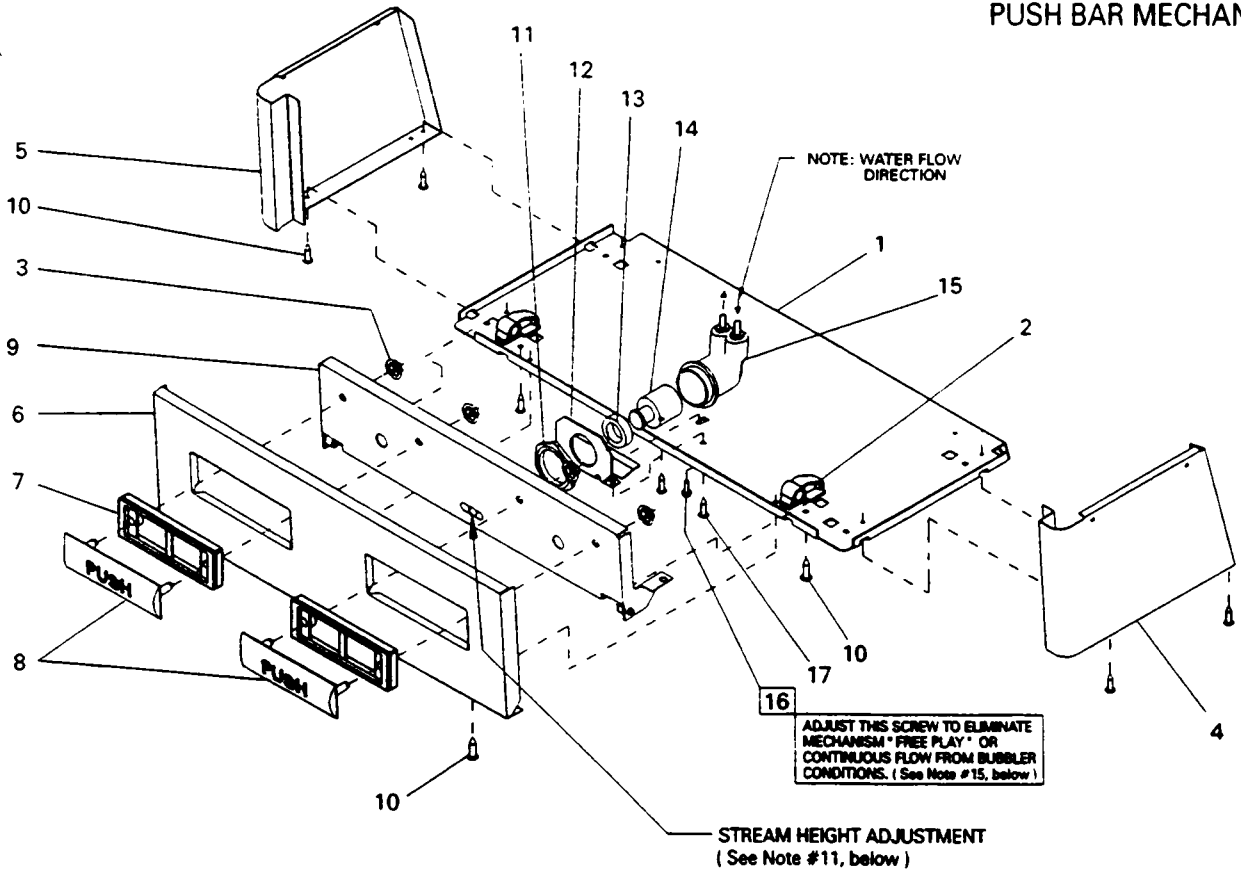

FIG. 5
- 11). Stream height is factory set at 45-50 PSI. If supply pressure varies greatly from this, readjust stream height to approximately 1-1/2" above the bubbler guard by turning adjustment screw, accessible by removing front push panel, item No. 6 (See Fig. 5 & 6)
- 14). Replace the front panel and secure by re-tightening the (4) screws.
3. Temperature Control: Factory set for 50°F water ($\pm 5^\circ$) under normal conditions. For colder water, adjust screw on Item No. 14 (see Fig. 5 on Pg. 3), accessible by removing front panel (Item No. 6